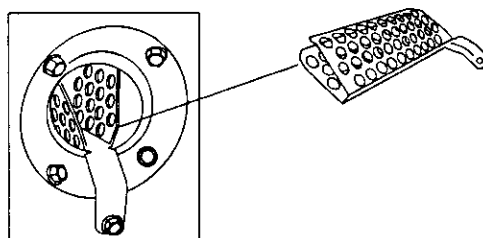

Fig. 4—NOx Device Location
- a. Remove the screw underneath the heat exchanger inlet that secures the NOx device in the heat exchanger (see Fig. 4)